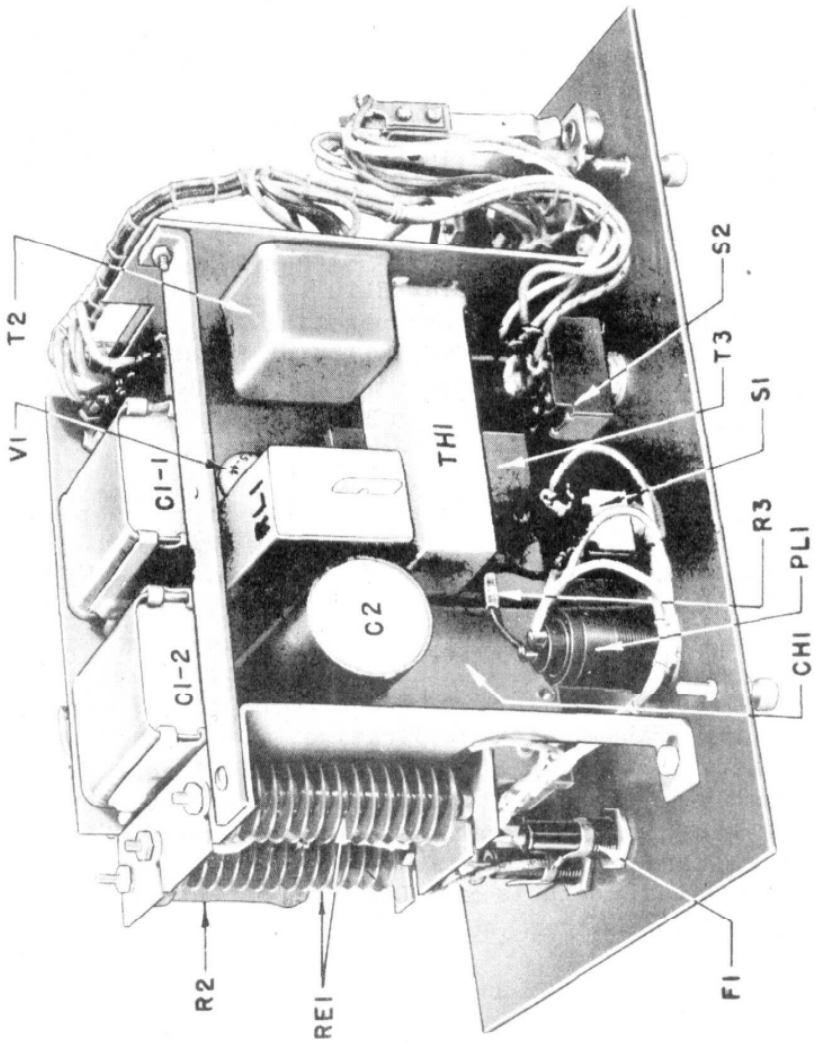
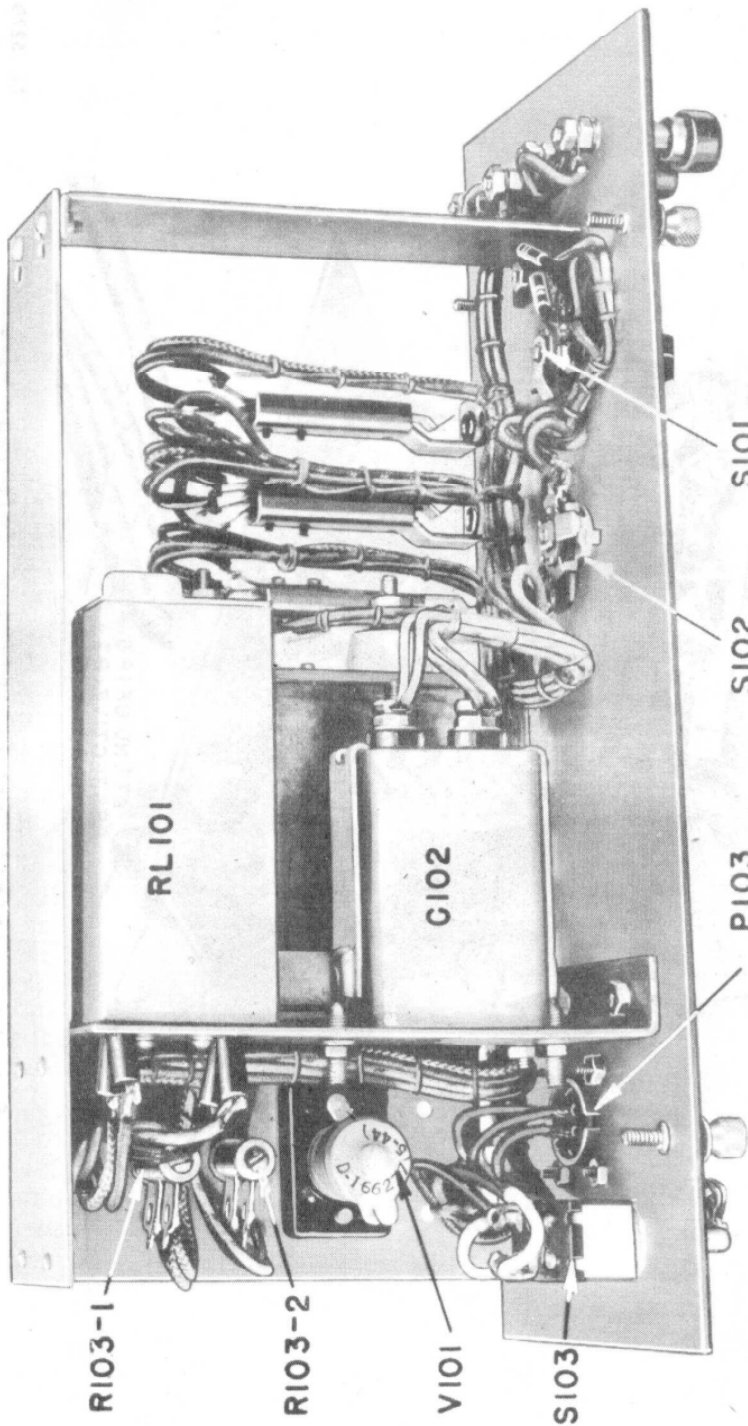

Fig. 11. Control Unit C-113/TRA-2, right rear view.
Fig. 13. Remote Control Unit C-112/TRA-2, top view.
a. Figures 11 and 12 are internal views of Control Unit C-113/TRA-2; figures 13 and 14 are internal views of Remote Control Unit C-112/TRA-2. Figures 15 and 16 are wiring diagrams of Control Unit C-113/TRA-2 and Remote Control Unit C-112/TRA-2, respectively. Control Unit C-113/TRA-2 and Remote Control Unit C-112/TRA-2 have only a few moving parts which are frequently used. Therefore, they should require only a minimum of maintenance. All electrical equipment of this type, however, must be kept free of grit and dirt to prevent failure caused by improper contact. The units are well gasketed to prevent the entrance of foreign matter, but under severe field conditions, some dust may filter through. Routine maintenance should include the cleaning and dusting of the components, preferably by air hose.